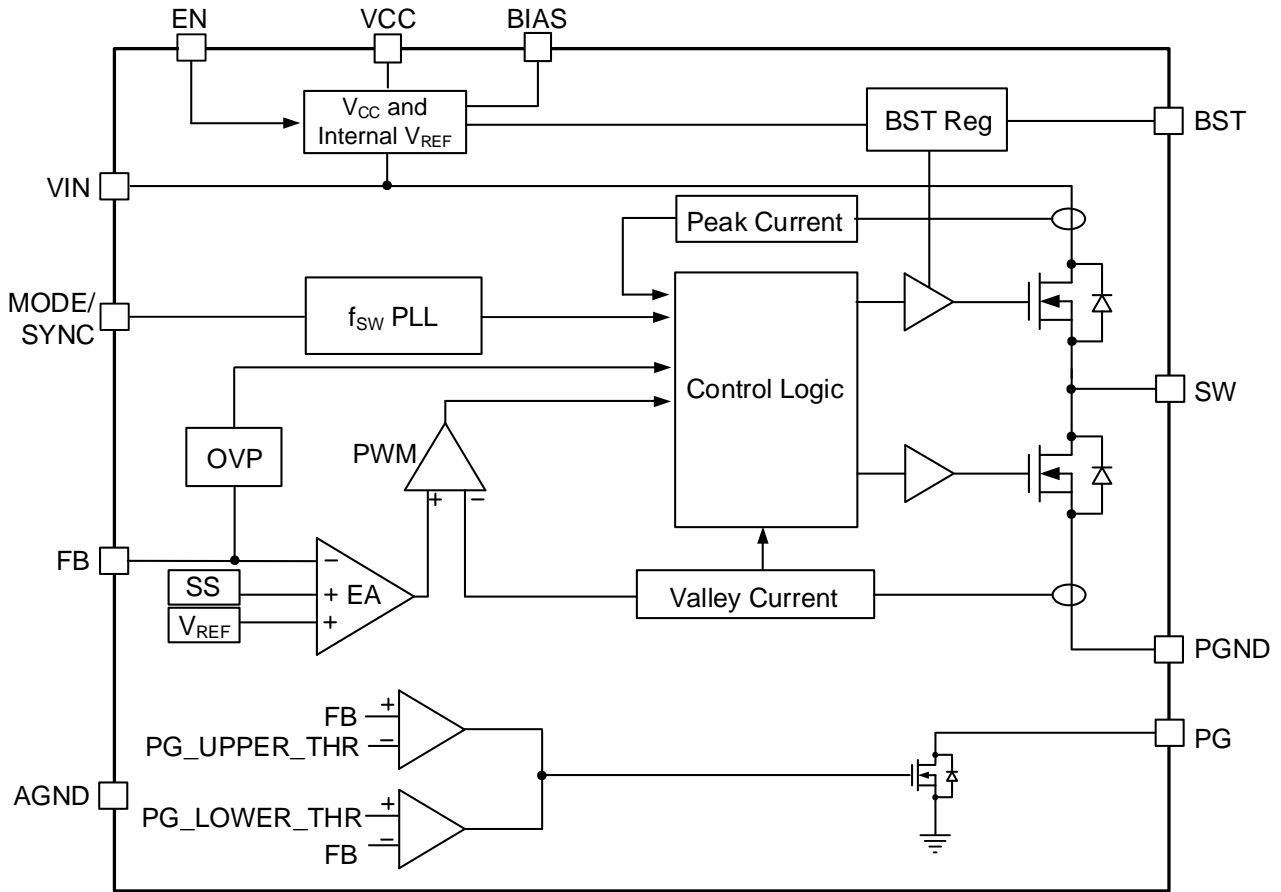

Figure 1: Functional Block Diagram
The MP4583 is a synchronous, step-down, switching converter with integrated high-side and low-side power MOSFETs (HS-FET and LS-FET, respectively). It provides a highly efficient solution with internal compensation, featuring a wide input voltage (V_{IN}) range, internal soft-start (SS) control, and precise current limiting. Its low operational quiescent current (I_Q) makes it suitable for high efficiency in light-load applications. Figure 1 on page 11 shows the internal block diagram, and the following sections describe the MP4583's detailed functionality.